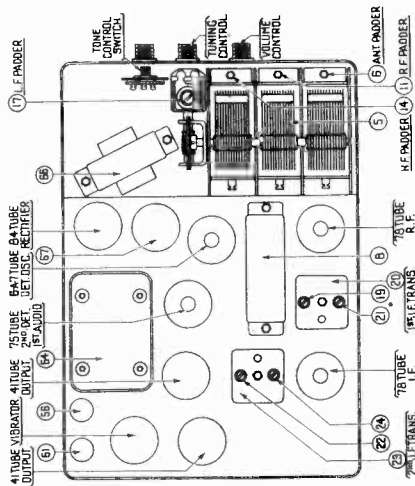

FIGURE 6
**I. F. —** Set the signal generator at exactly 260 K. C. Connect the generator lead to the grid cap of the 6A7 tube in series with a .1 mfd. condenser (without removing the grid clip). Adjust the padders ③, ④, and ⑤ on the first and second I. F. transformers for maximum reading on the output meter. (See Figure 6 for location of padders).